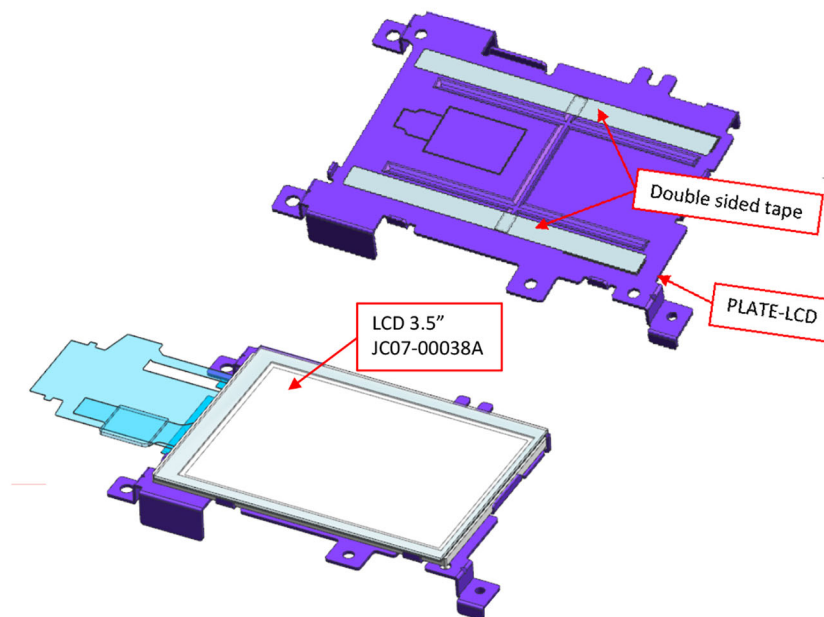

Figure 2 LCD Screen removal
4. Carefully separate the LCD Screen from the LCD Plate to remove, Figure 2.